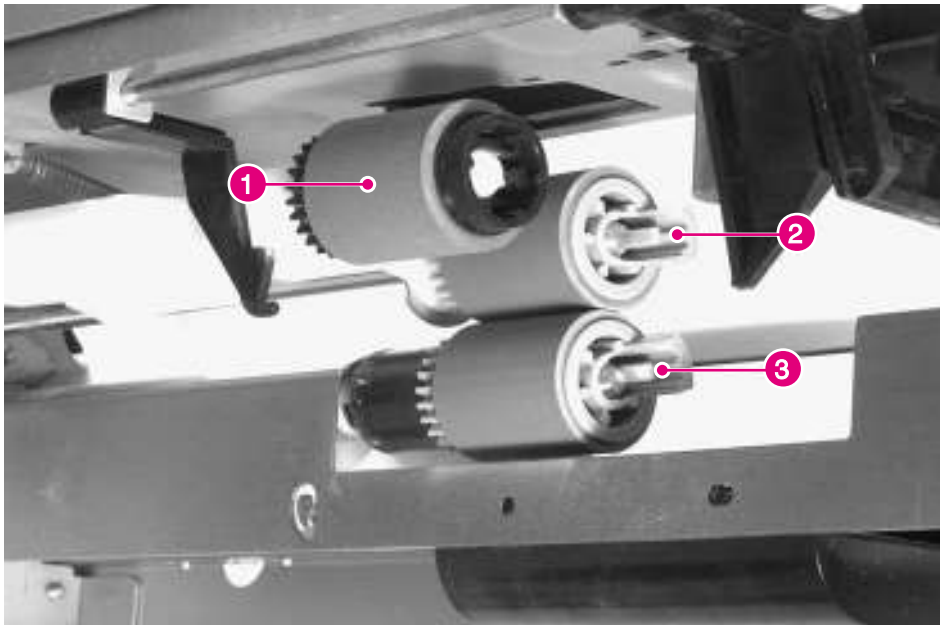

Figure 6-101 Pickup, Feed, and Separation Rollers
- Pickup Roller: figure 6-101, callout 1
- Feed Roller: figure 6-101, callout 2
- Separation Roller: figure 6-101, callout 3